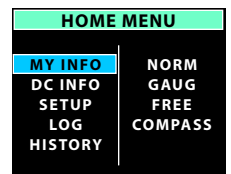

Fig. 3 - Home Menu (after Diagnostics)
- After the diagnostic check, the Home Menu screen will be displayed (Fig. 3) allowing you to select what you would like to do (view information, perform setup, access operating modes).